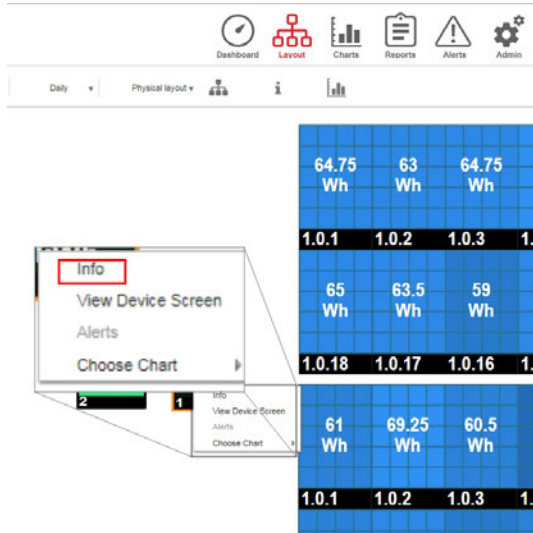

Figure 33: Inverter menu
2. Right-click the inverter and select **Info** from the menu (*Figure 33*). The inverter details window is displayed (*Figure 34*).